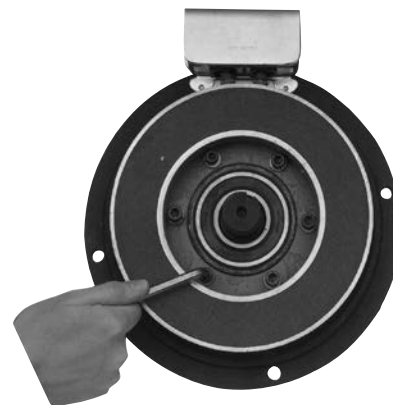

Figure 2
3. Once the mounting surface has been prepared, the magnet is bolted in place with capscrews and lockwashers. (Figure 2)